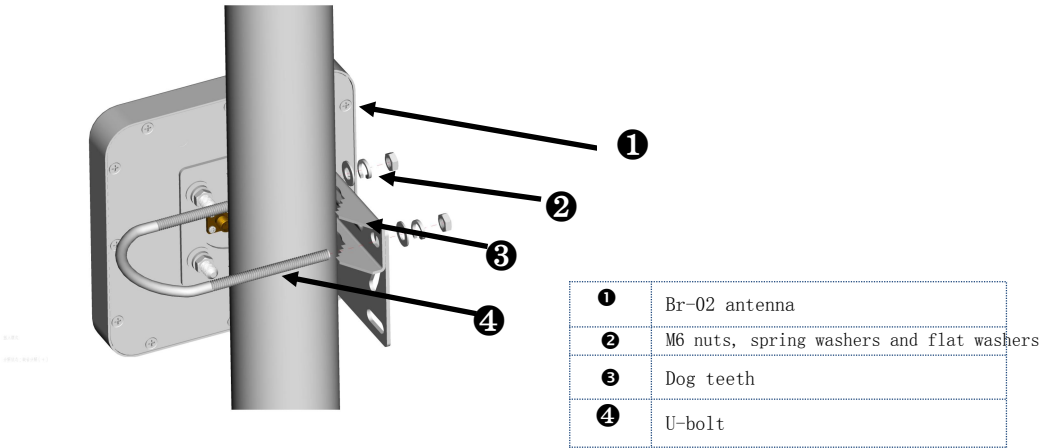

Figure 5 The BRA-02 antenna is installed on the pillar
Step 2: Use “M6 U-bolts, nut spring washers and flat washers” and “dog teeth” to fix the antenna on the vertical steel frame structure or pillar, as shown in Figure 5.